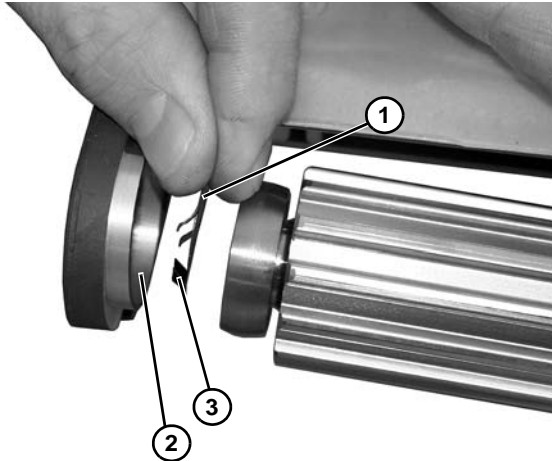

Figure 70
2. Add spring washer (**Figure 70, item 1**) to headplate spindle bore (**Figure 70, item 2**) opposite motor drive side with fingers (**Figure 70, item 3**) toward headplate spindle bore.